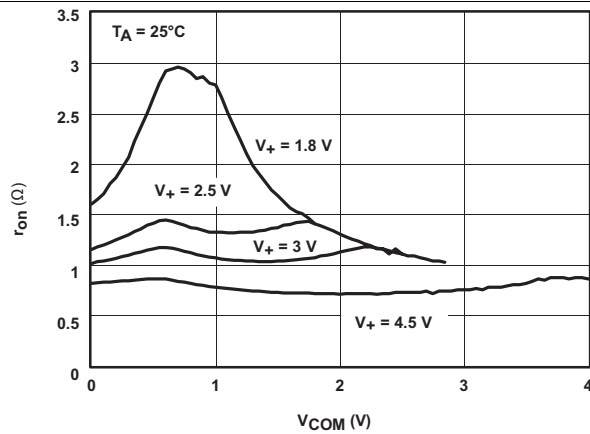

Figure 1. r_{on} vs V_{COM}
Figure 1: Measurement setup and timing diagram for the input signal. The setup shows a logic input (1) connected to the IN pin of a device. A voltage source V_{GEN} is connected to the NC or NO pin through a resistor R_{GEN} . The COM pin is connected to a load capacitor $C_L(2)$. The timing diagram shows the Logic Input (V_I) switching between V_{IH} and V_{IL} , and the resulting V_{COM} signal. A box specifies the test conditions: $V_{GEN} = 0$ to V_+ , $R_{GEN} = 0$, $C_L = 0.1$ nF, $Q_C = C_L \times \Delta V_{COM}$, and $V_I = V_{IH}$ or V_{IL} .